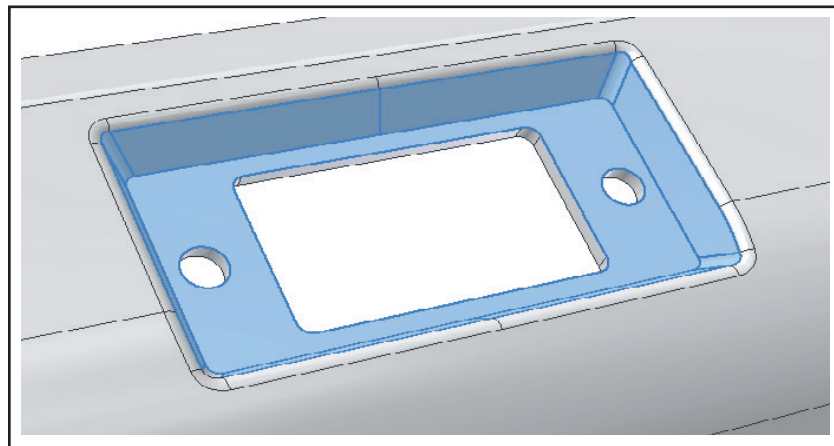

Figure 4 - Surface to clean
- 1.19. It is important to thoroughly clean the light's mounting surface in the fiber glass panel (See Figure 4).